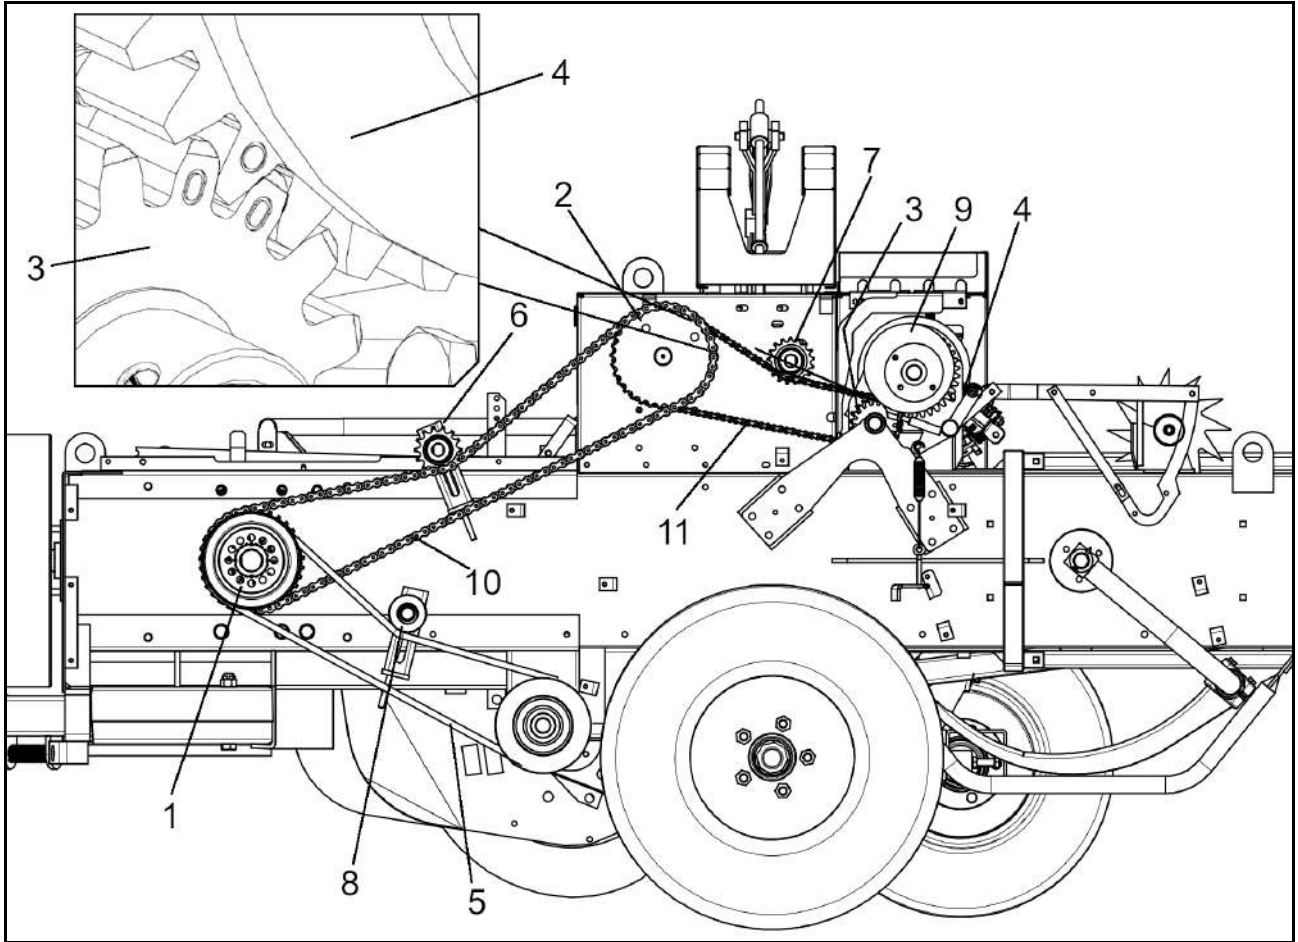

Fig. 7.3
1) Make the connection with the chain 10 (Fig. 7.3) between the gear 1 (Fig. 7.3), made idle on its axle by loosening the socket head (Allen) screws, and the fork control gear of the double gear 2 (Fig. 7.3).
Under these conditions, the gear 1 (Fig. 7.3) is secured to its axle with the Allen screws.
The multi-hole flange system makes it possible to lock the gear 1 (Fig. 7.3) in the required position with a minimum deviation.